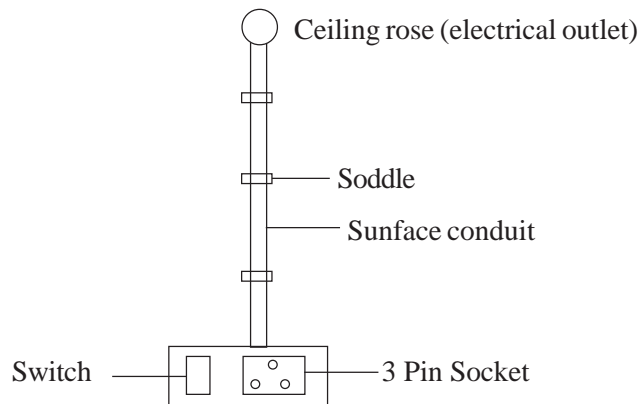

Figure 6.2 : Open conduit wiring
5. If the electrical connection is too far from WPU location, bring electrical connection outlet near to it by either concealed or open conduit wiring system Fig 6.2
6. Make a 3 point socket switch connection along with a MCB to provide electrical point to a water purifier using standard electrical installation procedure as given in Fig 6.2